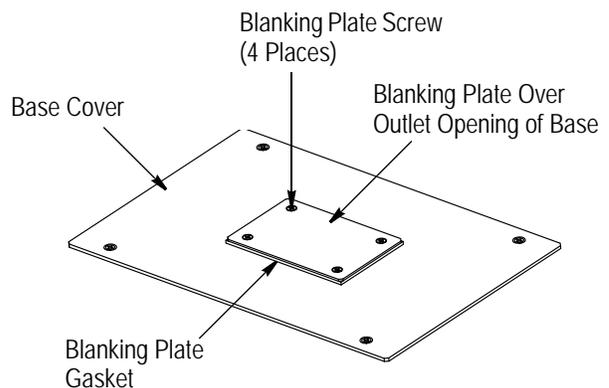

Figure 10
2. Place the blanking plate over the outlet opening, and secure the blanking plate to the base cover using the four blanking plate (8-32x3/8-in. flat head) screws. See Figure 10.